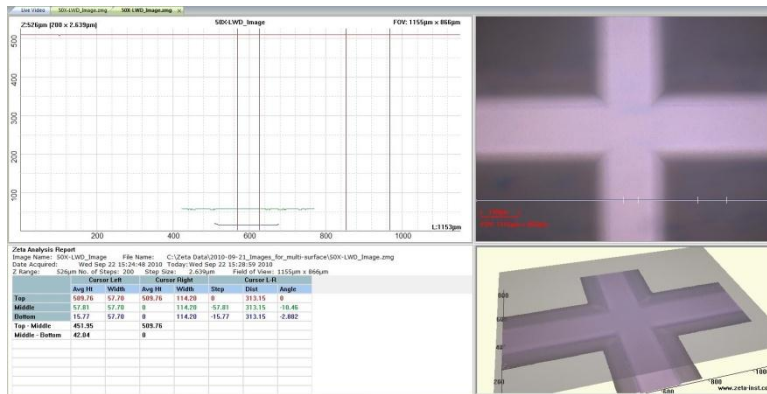

Fig. 95. Step height measurement on filtered image
- Open the filtered image, select step height measurement, and set the cursors over the channel. The improved analysis is shown in Fig. 95.